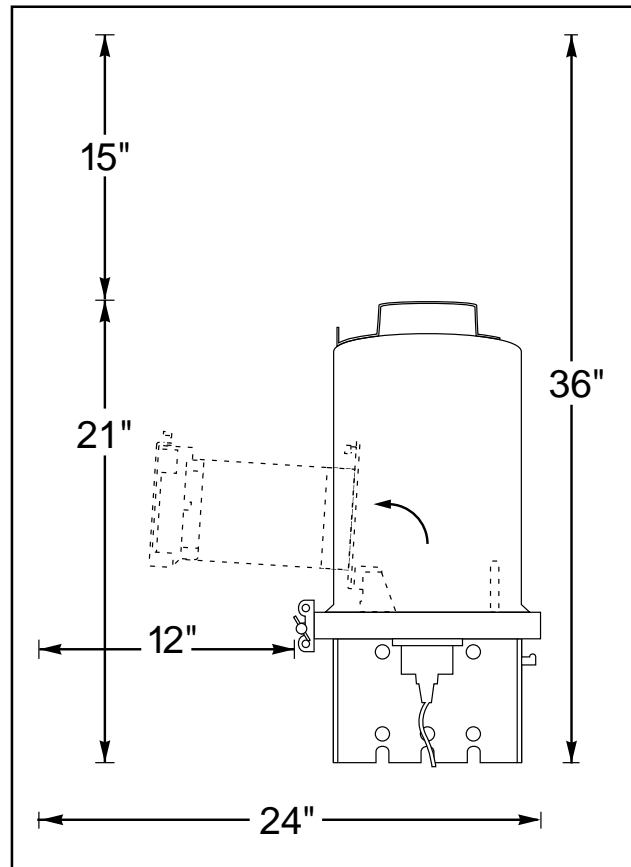
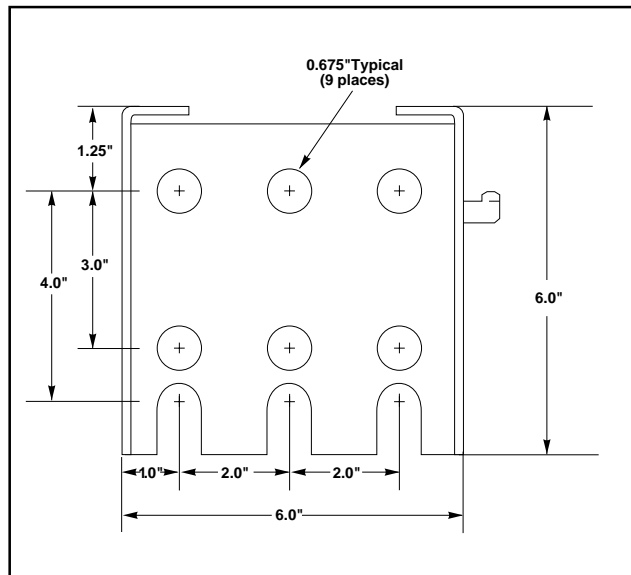

Figure 4. Mounting Clearances
Figure 5. Guide for Mounting Bracket Holes
| Figure 4. Mounting Clearances | 4 |
| Figure 5. Guide for Mounting Bracket Holes | 4 |
- (1) Clearances between the Repeater Housing and adjacent structures must be observed for access during maintenance. Refer to Figure 4 for the clearances required for removing the housing cover and the tilting internal case support.
- (2) Verify that the proposed cable route does not exceed the 40-foot stub cable length.
- (3) The mounting bracket contains holes for mounting the unit to a pole, in a vault, or in a manhole. A guide for mounting bracket holes is illustrated in Figure 5. Select the location for mounting the unit and fasten the mounting bracket appropriately.